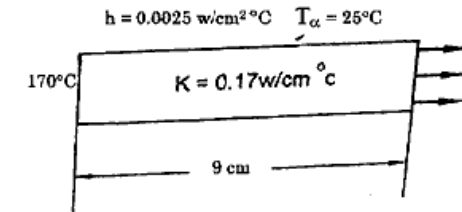

Fig. 13(b)
- (b) Calculate the temperature distribution in the stainless steel fin shown in Fig. 13(b). The region can be discretized into 3 elements of equal size.